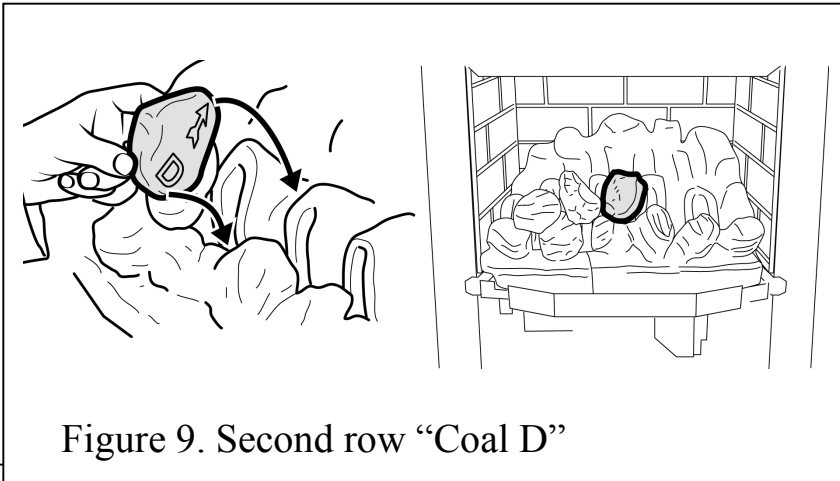

Figure 9. Second row "Coal D"
12. Hold coal 'D' upright with the arrow pointing to the top. Locate coal 'D' as shown in figure 9.